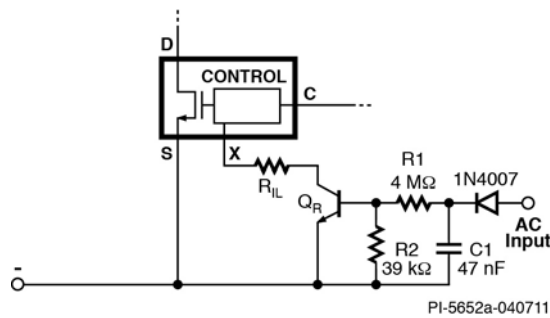

Figure 3 – Fast AC Reset Circuit.
The TOPSwitch-JX family has a fast AC reset function which can be configured on the EXTERNAL CURRENT LIMIT (X) pin (as shown in Figure 3). Should the device stop switching due to a latching OVP fault condition, the circuit connected to the X pin will force I_X to exceed $I_{X(TH)} = -27 \mu$ A (typical) and reset the latch when the AC input is disconnected or falls below a set threshold value.
In Figure 3, R1, R2 and C1 set the time after AC is removed before the latch is reset. A higher gain BJT Q_R is desirable to allow a higher resistance value for R1 and lower capacitance value for C1, and thus minimize the circuit dissipation.